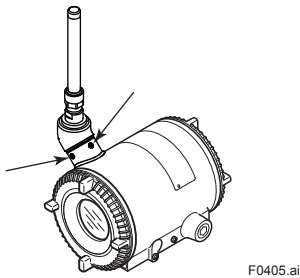

Figure 4.5 Mounting Screw Position
Adjust the direction of the antenna to be in the upright position. Figure 4.5 show factory setup antenna position. Figure 4.5 show factory setup antenna position. If the transmitter is installed to horizontal impulse piping, follow the procedure below and change the antenna position.
- 1) Loosen the two mounting screws at the bottom of the antenna by using a 2.5mm Allen wrench (see Figure 4.5). The screws might come off and be lost if loosened too much; loosen the screws by about three rotations.